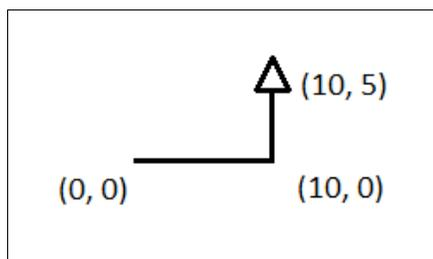

Figure 1:
4. *Move forward 5.* This moves the laser to location $(10, 5)$. (See Figure 1)